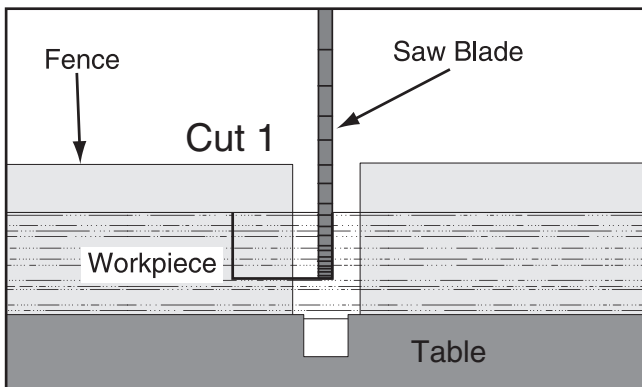

Figure 60. First cut for a single-blade dado.
4. Align blade to cut one side of dado, as shown in Figure 60.